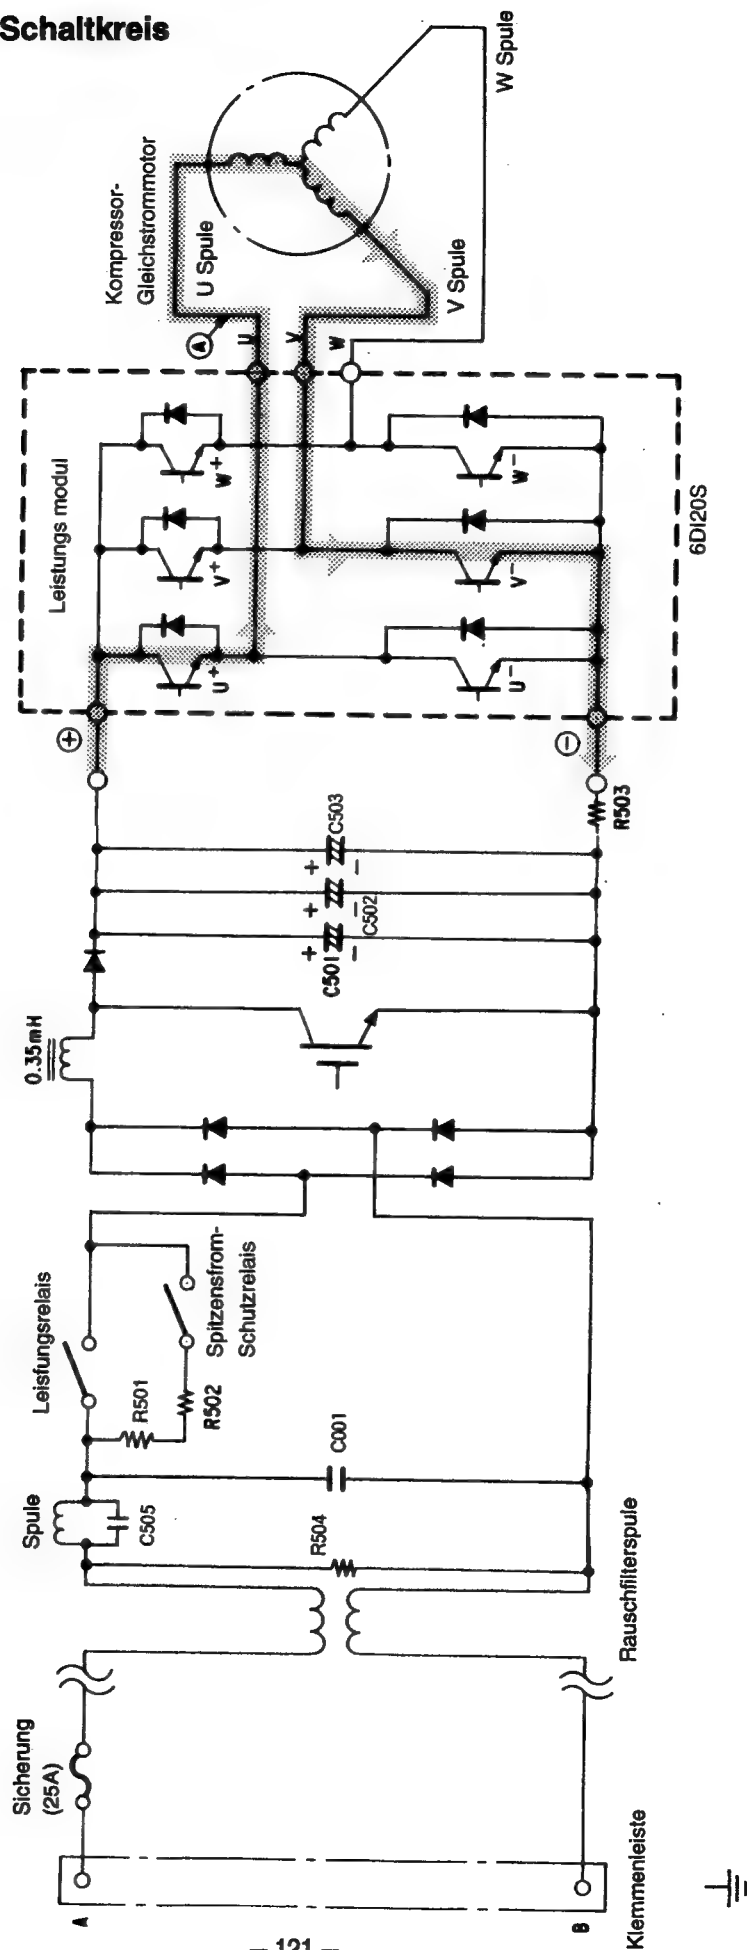

Abb. 3-1 Leistungsmodul-Schaltkreis (U+ is EIN, V- is AUS)
- \* At point E: U+ is ON, V- is ON (circuit in Fig. 3-1)